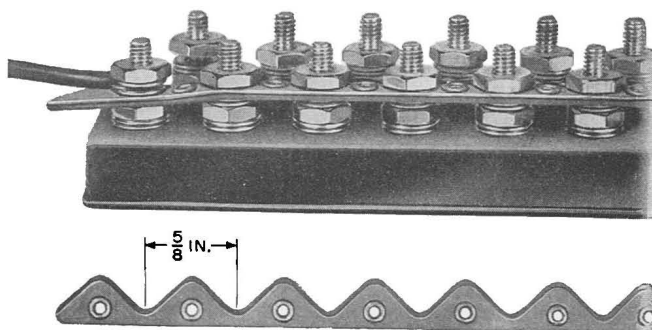

FIG. 16—S-TYPE BONDING RIBBON
10.01 The S- and L-type bonding ribbon may be used to strap binding posts (shown in Figs. 16 and 17). The newer S-type bonding ribbon permits the disconnection of any conductor in a bonded group of conductors by backing off the binding post nut to which the conductor is connected.